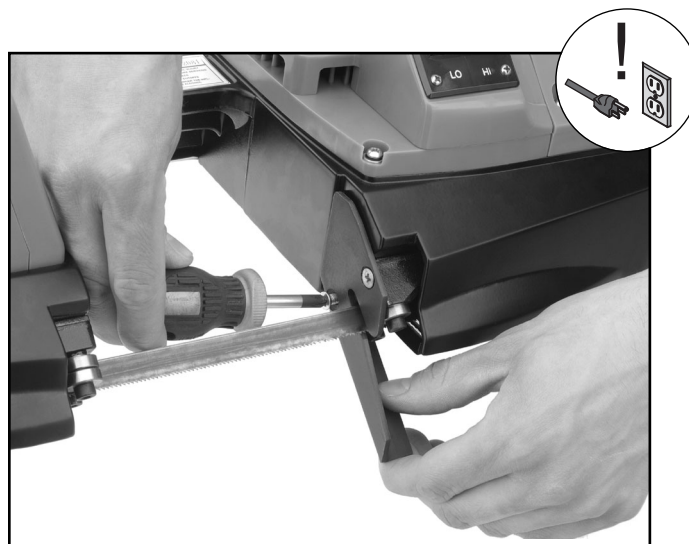

Figure 5. Attaching blade guide.
3. Secure the blade guide in place with the supplied countersunk flat-head Phillips head screws as shown in **Figure 5**.